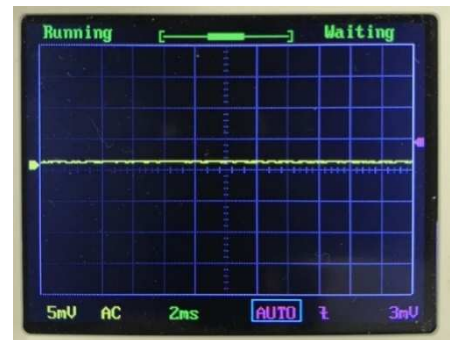

Fig.5
1) Press the "TRIGGER" button and check if "Mode" area is selected as the trigger condition. Turn the adjustment knob in to "AUTO" mode. Check if "AUTO" sign is displayed on the menu bar(Fig.5).